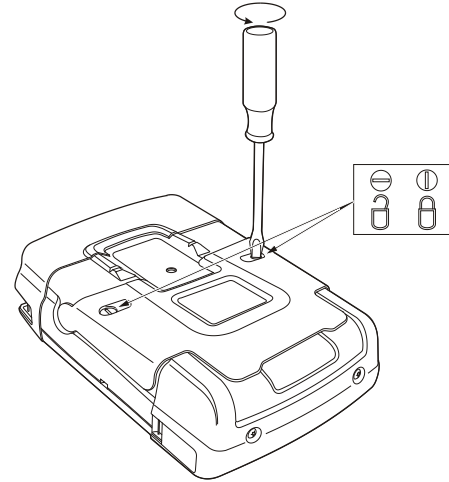

Figure 47. Unlocking the Battery Cover
3. Unlock the battery cover (Figure 47)